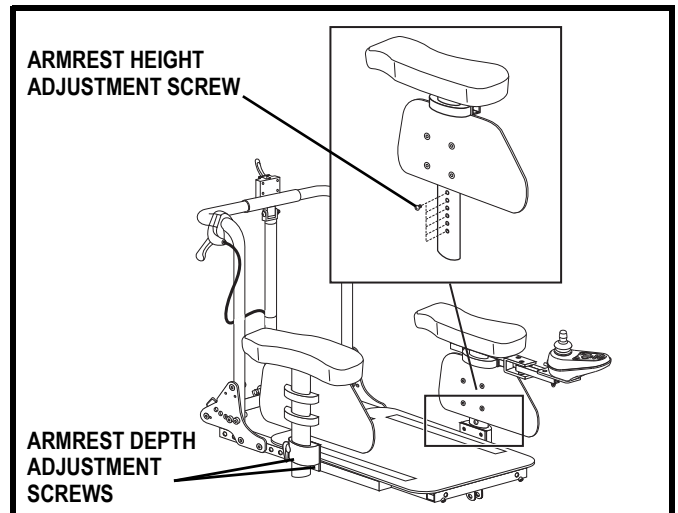

Figure 17. Armrest Height and Depth Adjustment
3. Reposition the height adjustment screw to the desired height. See **figure 17**.
1. Loosen the two depth adjustment screws under the armrest receiver. See **figure 17**.